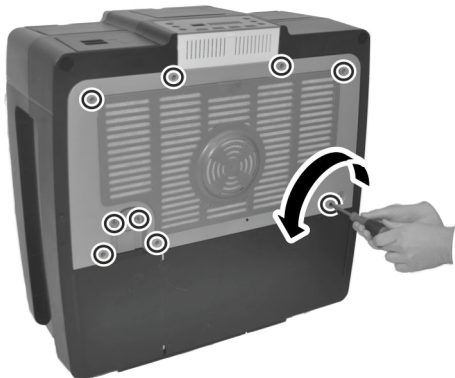

Fig. 32: Opening the rear
1. ➤ Loosen the screws of the rear wall of the housing (Fig. 32).